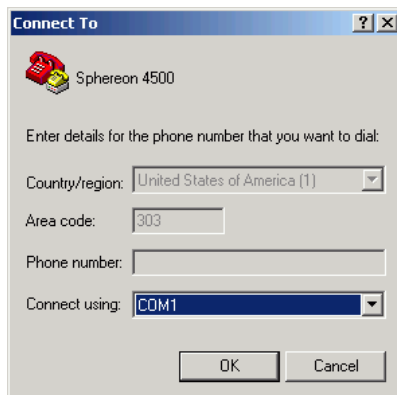

Figure 3-25 Connect To Dialog Box
- f. Type **Sphereon 4500** in the *Name* field and click *OK*. The *Connect To* dialog box displays (Figure 3-25).